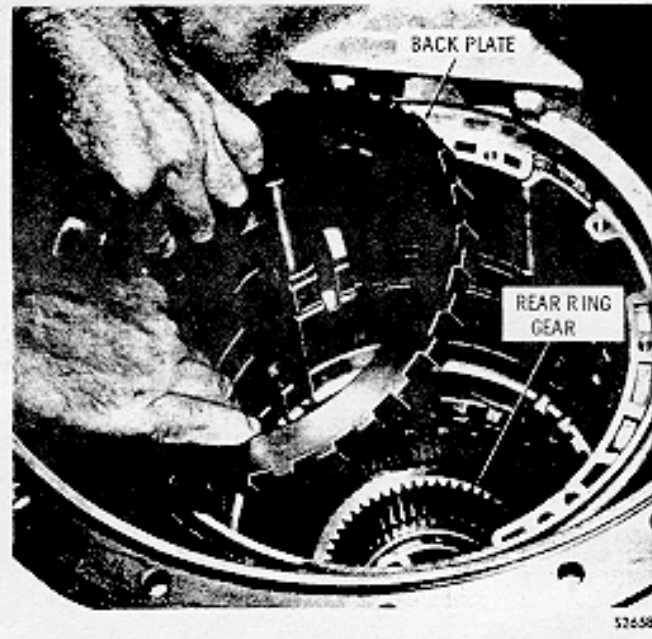
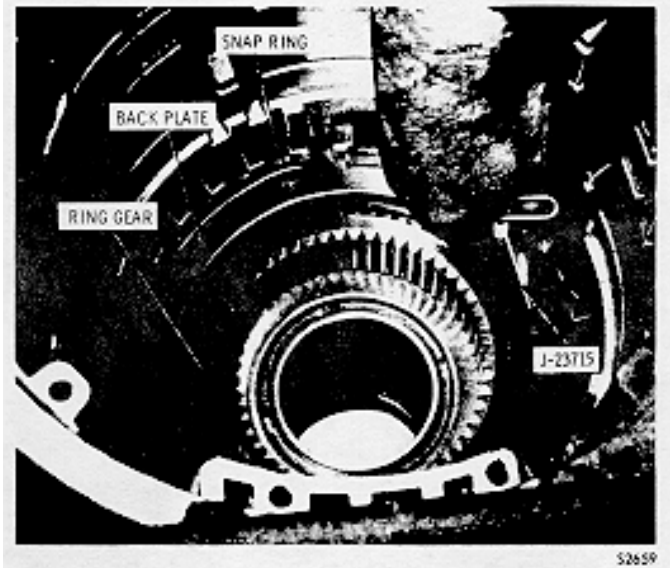

Fig. 7-4. Installing first clutch back plate
Fig. 7-5. Checking first clutch running clearance
(13) Install the two remaining clutch plates, external-tanged plate first. Install the clutch backplate (fig. 7-4) (wide surface down) and secure it with a snapping (fig. 7-5).
(14) Using clutch clearance gage J-23715, check the clearance between
snapping and the backplate (fig. 7-5). The smaller end of the gage should go into the clearance while the larger end should not.
If the J-23715 gage is not available, measure the clearance between the snapping and the backplate (fig. 7-5). The clearance must be 0.040 (1.02 mm) minimum to 0.100 (2.54 mm) maximum.